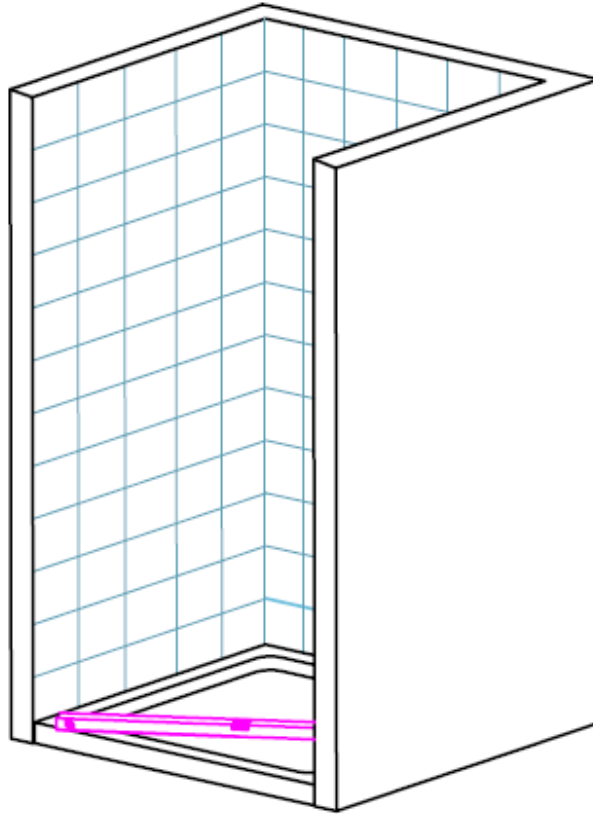

Figure 1
1. Using the spirit level to make sure the frame between the walls is horizontal, as shown in figure 1